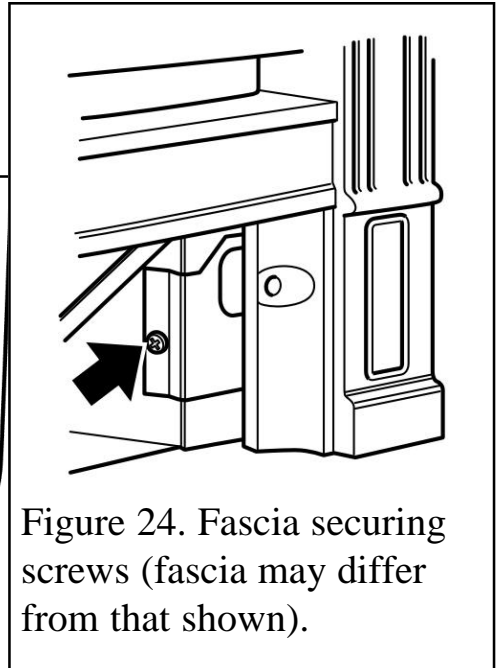

Figure 24. Fascia securing screws (fascia may differ from that shown).
1. Fit the fascia to the appliance by locating the top to the upper hanging brackets (See figure 23), then attaching it to the body of the appliance using the two screws supplied (See figure 24).
3. Fit the fascia to the appliance by locating the top to the upper hanging brackets (Figure 23), then attaching it to the body of the appliance using the two screws supplied (Figure 24)